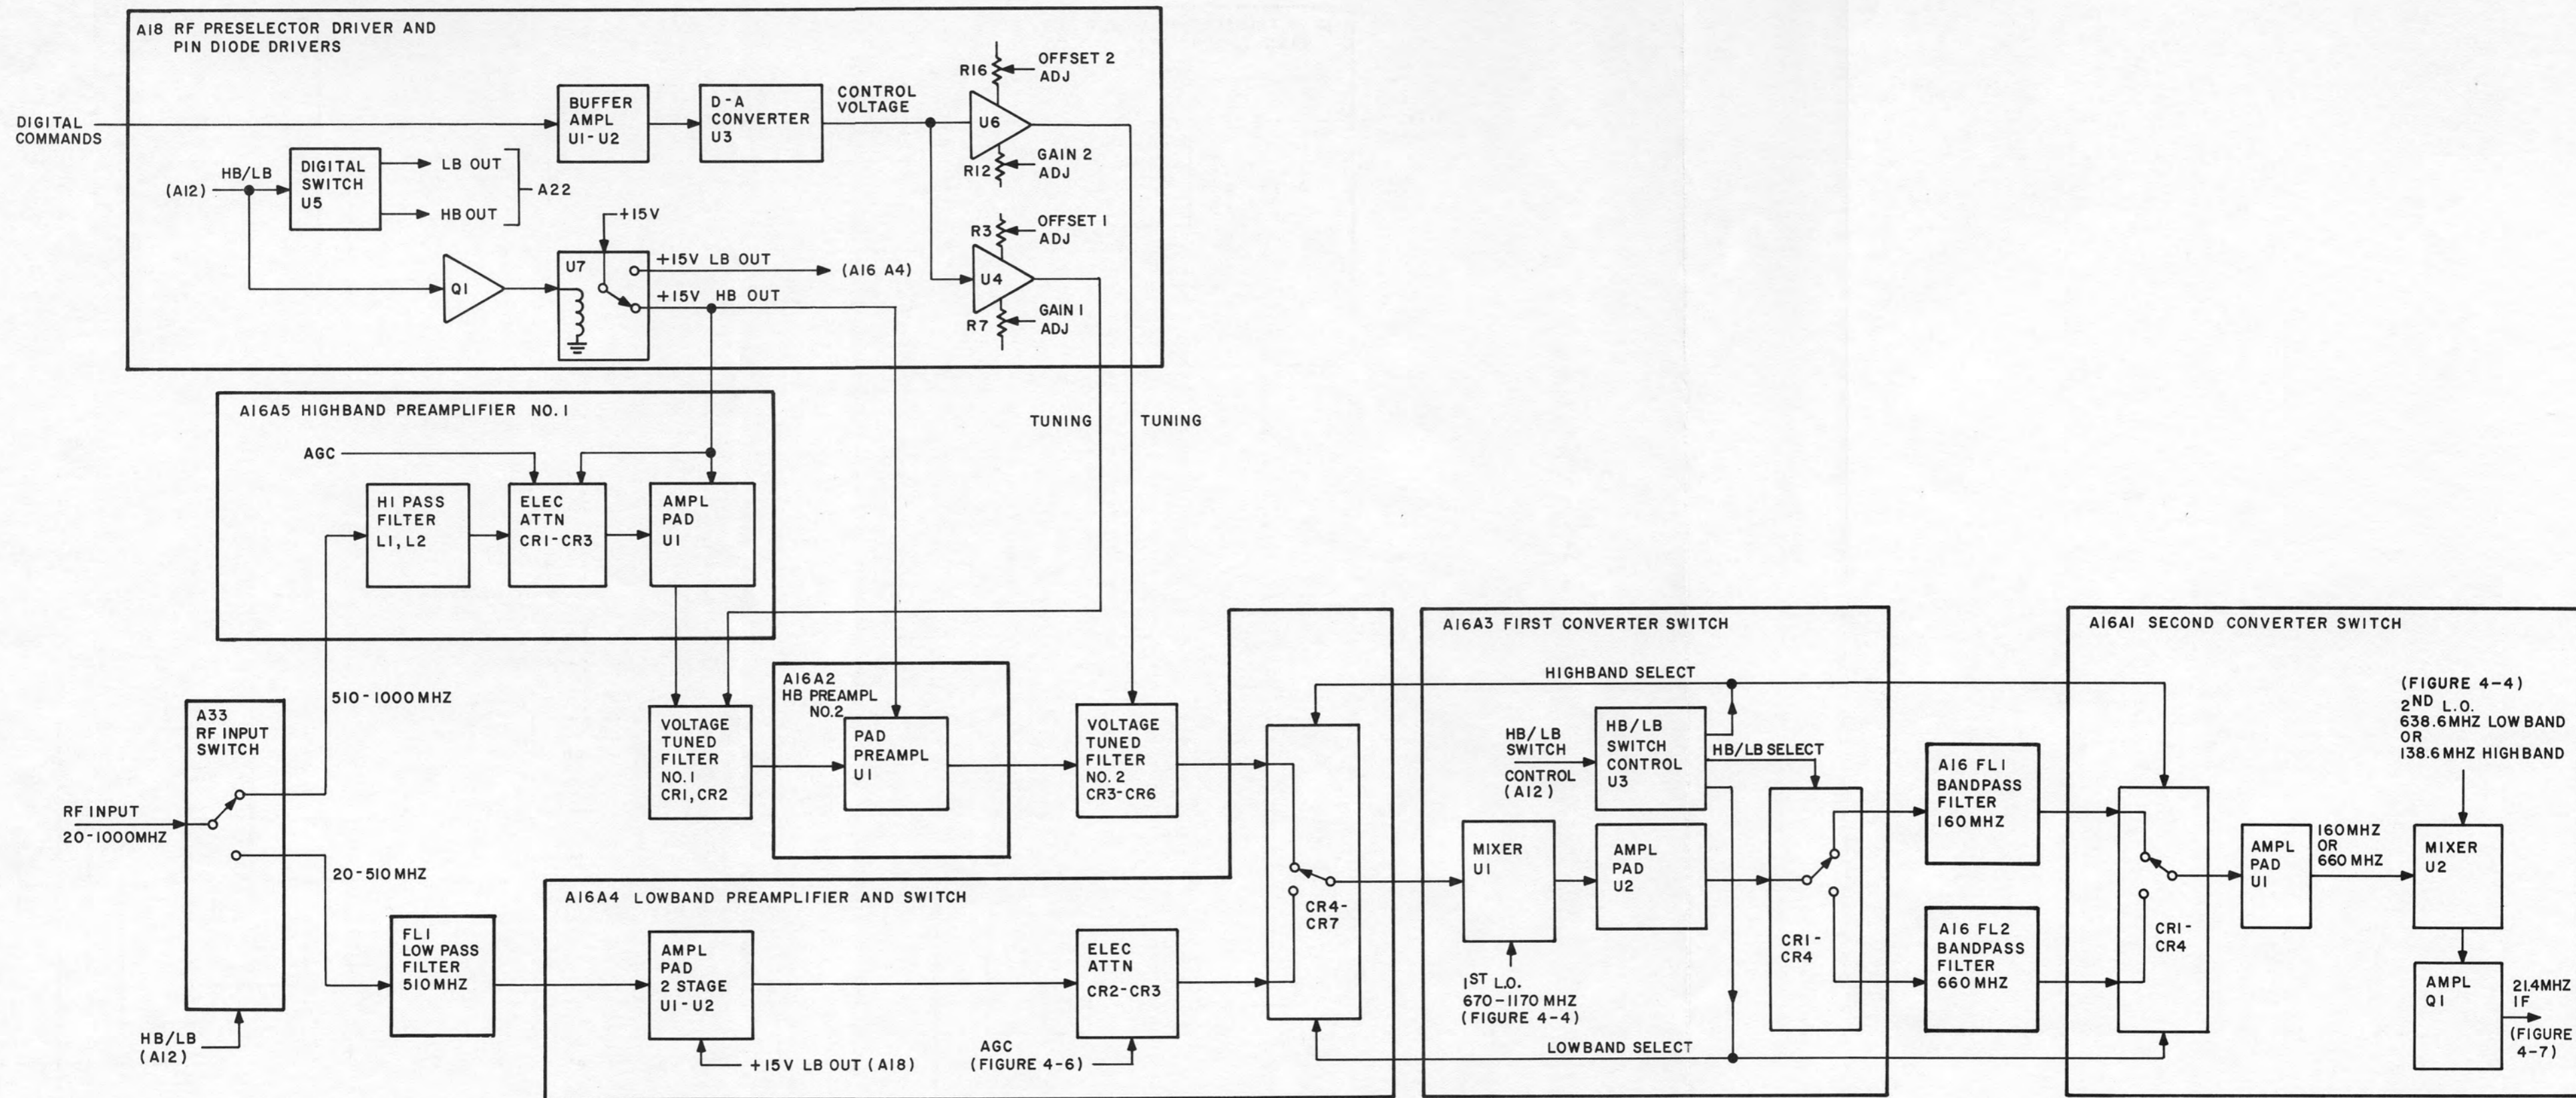

Figure 4-5. RF Tuner Section
c. RF Section. The RF section (figure 4-5) is composed of A33 RF input switch, A16 RF assembly, and A18 RF preselector driver and PIN diode switch drivers.